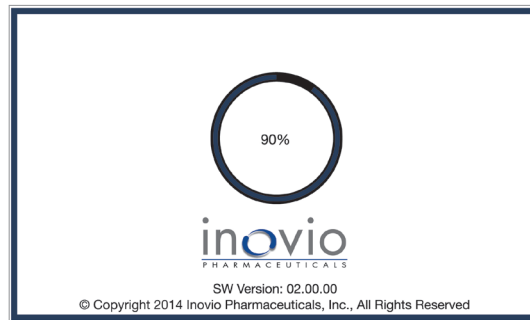
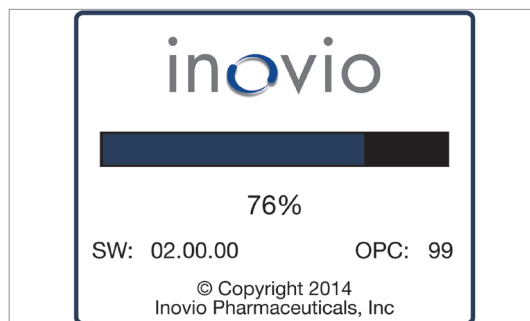

Figure 11 Self Test Screen
Figure 12 Start Up Screen
4. On power up, device will initiate a Self Test and the *Start Up* screen will display on the Base Station and Handset (see Figure 11 and Figure 12).